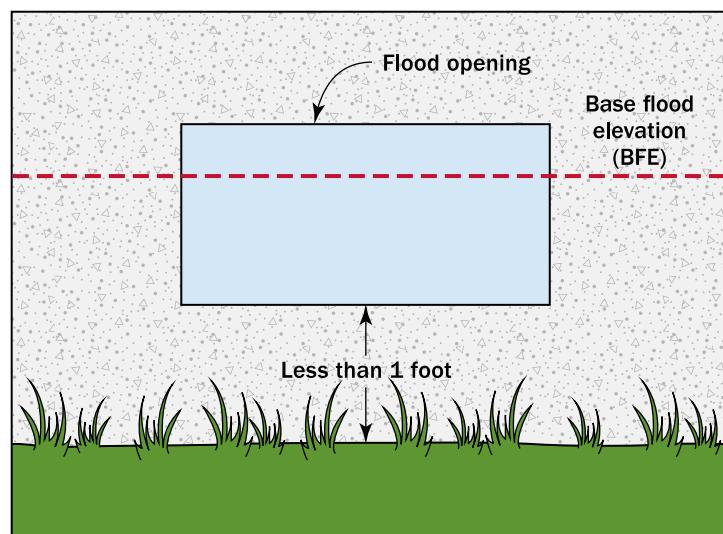

Figure 16: Bottom of the flood opening positioned as close as possible to grade (or floor) when any portion of the opening extends above the BFE
- Install openings as close to grade (or floor) as possible to maximize the open area available for inflow and outflow of floodwater (see Figure 16). The total net open area of the openings must be based on the enclosed area even if some portion of the opening is above the BFE.